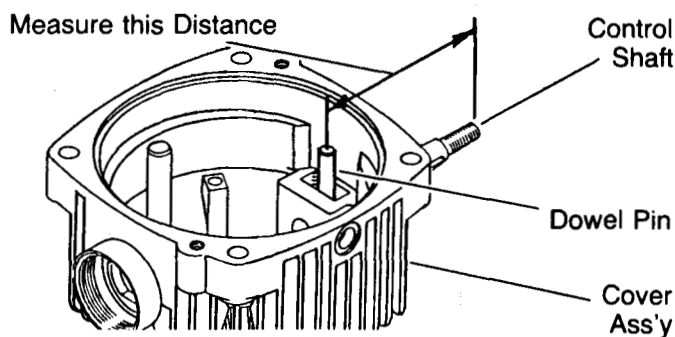

FIG. 51.
32. Measure distance between center of dowel pin and end of shaft as shown in Fig. 51.